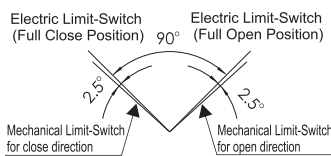

Fig. 9
- ① Drive the valve to the Full- Close Position by handle and make the Full-close Position Limit-switch move (When the Limit Switch moves, you can hear a sound of “click” ).
- ② Loosen the lock nut on the right side and turn clockwise the adjusting screw for closing limit-switch by means of inner hexagon spanner and make the adjusting screw to contact with the mechanical stopper, and then turn back the adjusting screw anti-clockwise for half of ring, make the mechanical limit-switch at the Full-close position be delayed with  $2.5^\circ$  angle distance to the Electric Limit-switch and then fasten the lock nut.
- ③ Use the same method to make the adjustment of Full-open position mechanical limit-switch (on left side).
**Special Hints:** After adjustment, you have to make the electric limit position and mechanical limit position of the actuator meet the requirements of Fig. 9. During the operation, if the mechanical limit-switch is leading or coincident with the electric limit-switch, the turning of motor would be blocked and the motor would have the danger of being burnt out or over-heated!